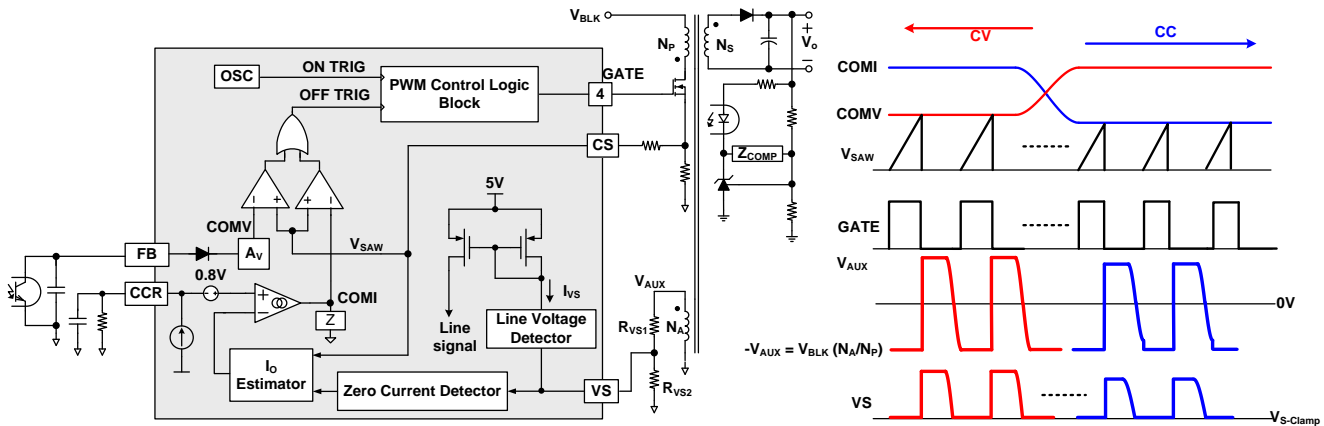
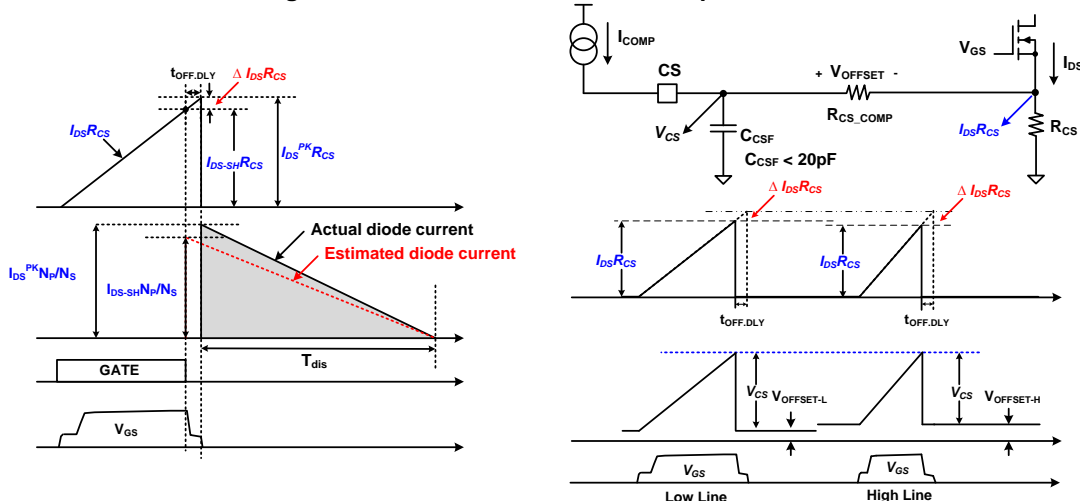

Figure 27 Simplified PWM Control Circuit and PWM Operation for CV/CC Regulation
Figure 29 Effect of MOSFET Turn-off Delay and Line Voltage Compensation
The FAN604 indirectly senses the line voltage through the VS pin while the MOSFET is turned on, as illustrated in Figure 27. MOSFET turn-on period, the auxiliary winding voltage, V_{AUX} , is proportional to the input bulk capacitor voltage, V_{BLK} , due to the transformer coupling between the primary and auxiliary windings. During the MOSFET conduction time, the line voltage detector clamps the VS pin voltage to $V_{S-Clamp}$ ($0 V$), and then the current I_{VS} flowing out of VS pin is expressed as:
Figure 27 shows a simplified CV / CC PWM control circuit of the FAN604. The Constant Voltage (CV) regulation is implemented in the same manner as the conventional isolated power supply, where the output voltage is sensed using a voltage divider and compared with the internal reference of the shunt regulator to generate a compensation signal. The compensation signal is transferred to the primary side through an opto-coupler and scaled down by attenuator A_v to generate a COMV signal. This COMV signal is applied to the PWM comparator to determine the duty cycle.
These two control signals, COMV and COMI, are compared with an internal sawtooth waveform (V_{SAW}) by two PWM comparators to determine the duty cycle. Figure 27 illustrates the outputs of two comparators, combined with an OR gate, to determine the MOSFET turn-off instant. Either of COMV or COMI, the lower signal determines the duty cycle. During CV regulation, COMV determines the duty cycle while COMI is saturated to HIGH level. During CC regulation, COMI determines the duty cycle while COMV is saturated to HIGH level.
The output current estimation is also affected by the turn-off delay of the MOSFET as illustrated in Figure 29. The actual MOSFET's turn-off time is delayed due to the MOSFET gate charge and gate driver's capability, resulting in peak current detection error as
Where L_m is the transformer's primary side magnetizing inductance. Since the output current error is proportional to the line voltage, the FAN604 incorporates line voltage compensation to improve output current estimation accuracy. Line information is obtained through the line voltage detector as shown in Figure 27. I_{COMP} is an internal current source, which is proportional to line voltage. The line compensation gain is programmed by using CS pin series resistor, R_{CS_COMP}, depending on the MOSFET turn-off delay, t_{OFF.DLY}. I_{COMP} creates a voltage drop, V_{OFFSET}, across R_{CS_COMP}. This line compensation offset is proportional to the DC link capacitor voltage, V_{BLK}, and turn-off delay, t_{OFF.DLY}. Figure 29 demonstrates the effect of the line compensation.